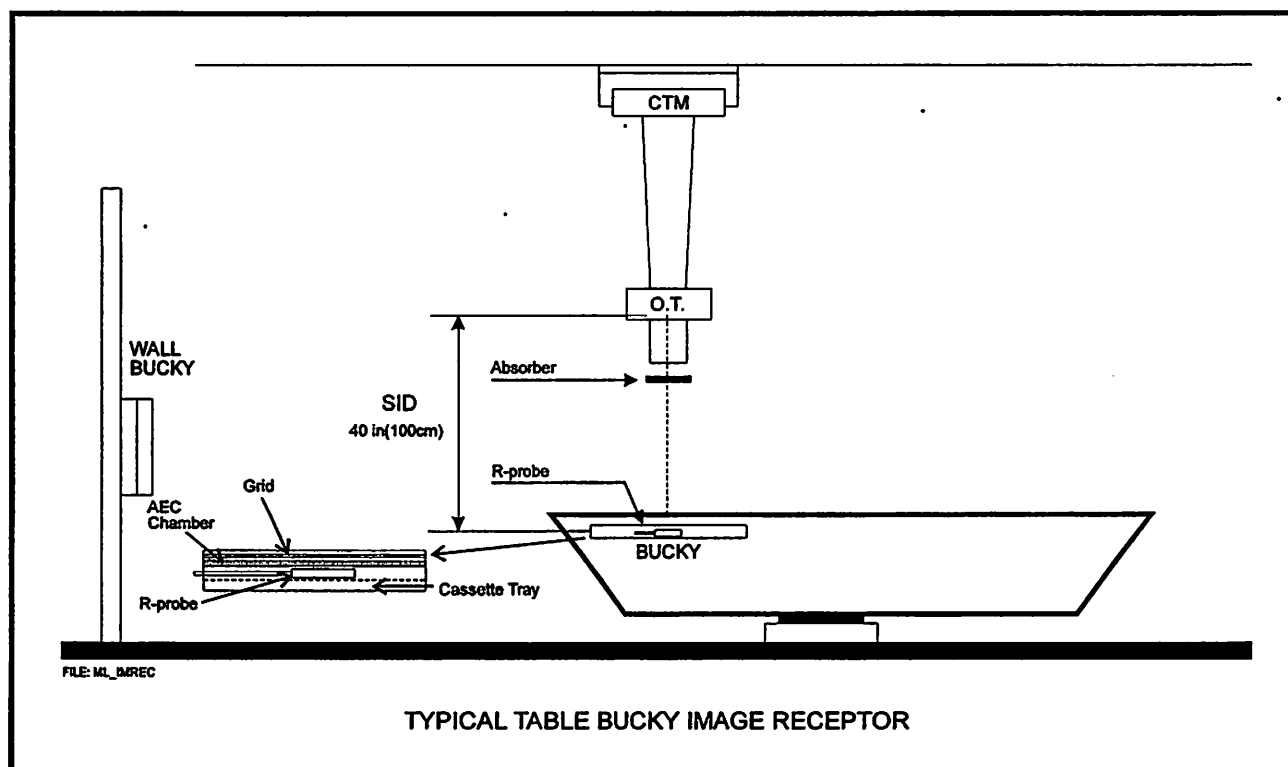

Figure 3D-13: Equipment setup for table Bucky AEC calibration
<p>IF THE AEC BOARD BEING CALIBRATED HAS SHORT AEC TIME COMPENSATION (FIGURE 3D-9 OR 3D-11), THE SHORT EXPOSURE TIME COMPENSATION MUST FIRST BE DISABLED.</p> <p>TO DO THIS, ADJUST ALL SHORT AEC EXPOSURE TIME COMPENSATION POTENTIOMETERS TO ZERO, I.E. SUCH THAT THE WIPERS ON EACH POT ARE GROUNDED. VERIFY THE CORRECT SETTINGS BY USING AN OHMMETER ON LOW OHMS RANGE AND ENSURING A NEAR ZERO OHMS READING FROM THE WIPER OF EACH SHORT AEC TIME COMPENSATION POT TO GROUND. REFER TO TABLE 3D-14 FOR THE SHORT AEC TIME COMPENSATION POTENTIOMETER DESIGNATIONS.</p> <p>FAILURE TO PRESET THESE POTS WILL RESULT IN DIFFICULTY IN PERFORMING AEC CALIBRATION.</p>
1.	Set up the X-ray tube stand as shown in figure 3D-13.